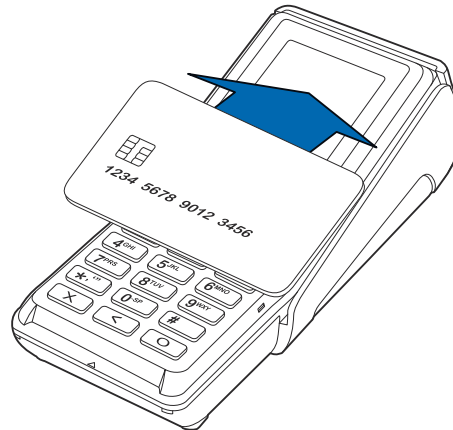

Figure 20 Using a CTLS Card
- 1 Gently tap or hold the card (within 4 cm) on the landing zone (see Figure 20).